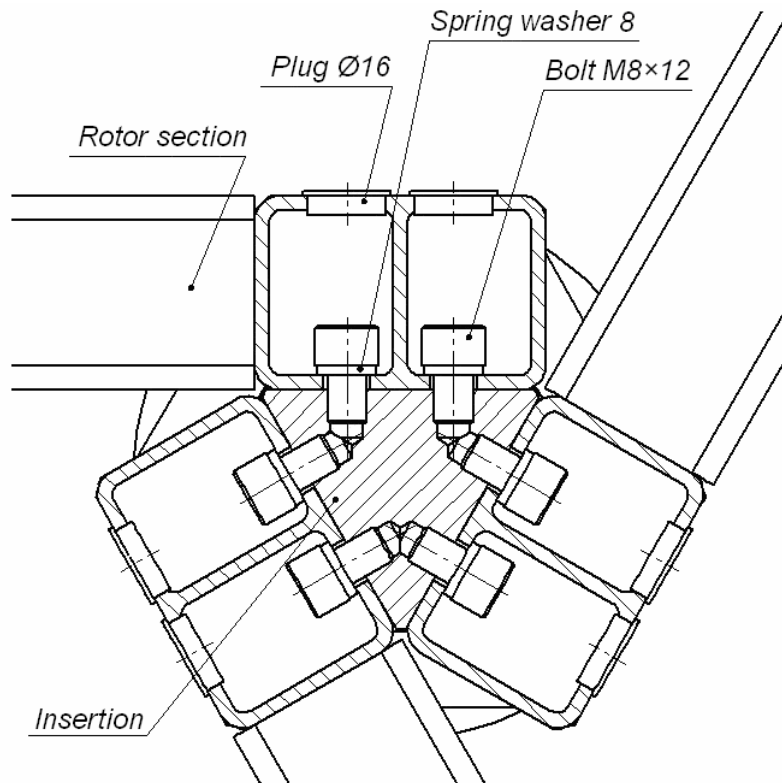

Fig. 17 Juncture of the rotor (1) sections
12.3. Likewise fix another rotor section (Fig. 17). Tighten the bolts. The rotor is assembled.